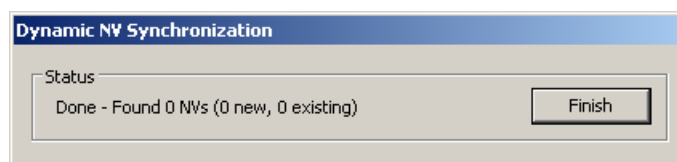

Figure 86: Synchronizing dynamic NVs from the device.
2. Right-click and select **Sync Dynamic NVs** in the context menu. The L-Gateway configuration software then loads any new dynamic NVs, which have been created and are not yet part of the port interface definition. The process completes when the dialog shown in Figure 86 appears.